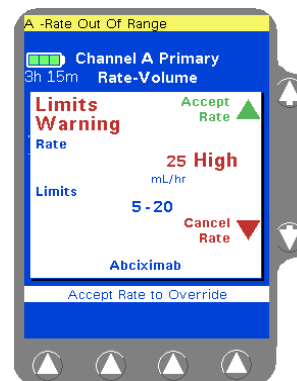

Figure 11-7 Limits Warning Pop-up
6. Press the **Confirm Primary** soft key. If the values entered result in a dose that is outside the COLLEAGUE GUARDIAN rate limits, a Limits Warning pop-up is displayed (Figure 11-7).